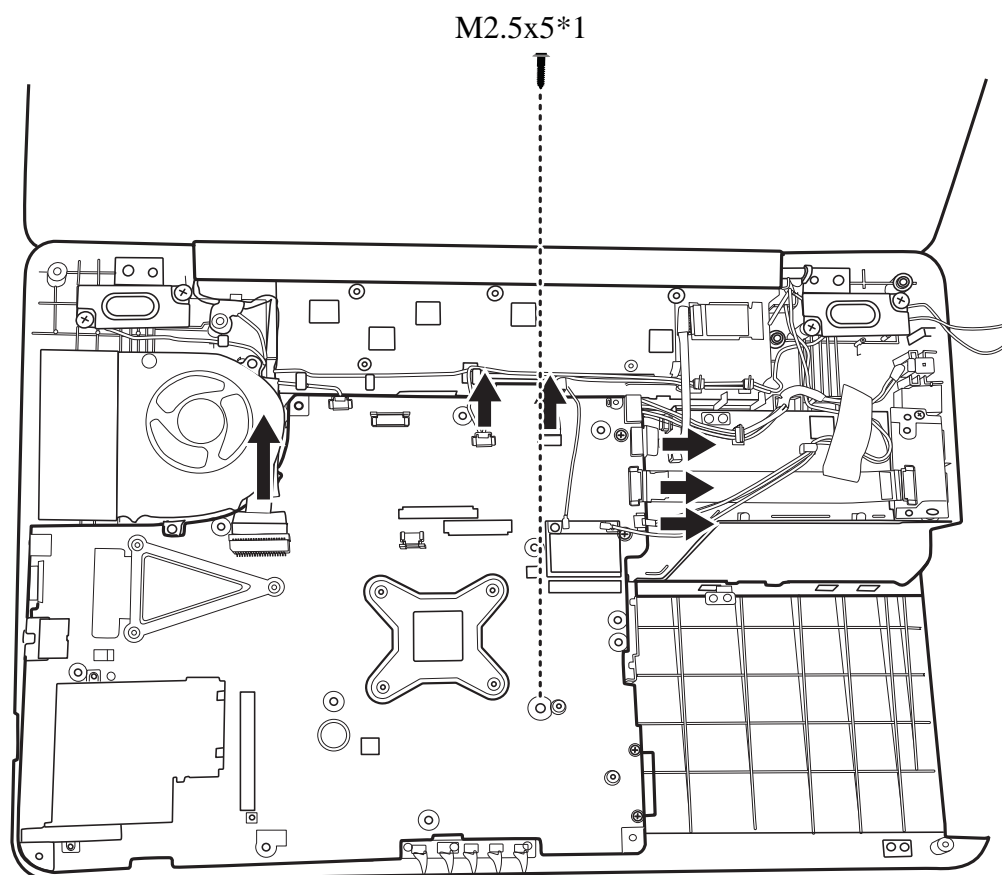

Figure 4.19 Removing the motherboard from logic lower assembly
1. Remove one M2.5x5 screw, six cables from the logic lower assembly as indicated by arrows in Figure 4.19.
6. Attach six cables to the motherboard as indicated by arrows in Figure 4.19.